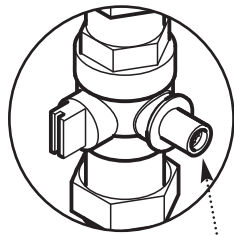

Fig. 47 Inlet Gas Pressure Test Point
2. With the boiler operating in the maximum rate condition check that the operational gas pressure at the inlet gas pressure test point is 20mb (Fig. 47).